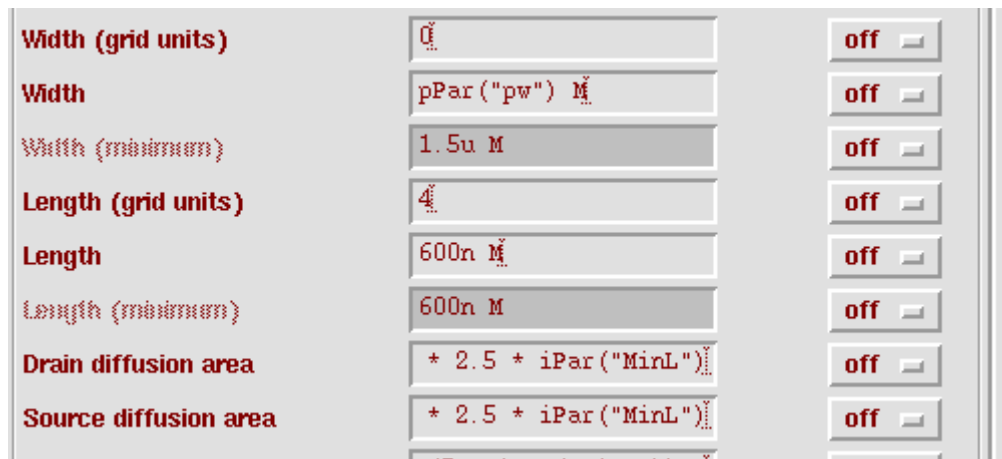

Figure 4: Setting the width of a PMOS transistor to a passed parameter value called “pw”.
3. Set the width value to `pPar("pw")`. This will specify the width of the PMOS as a “passed parameter”. Click **OK** to apply changes. This is shown in Figure 4.